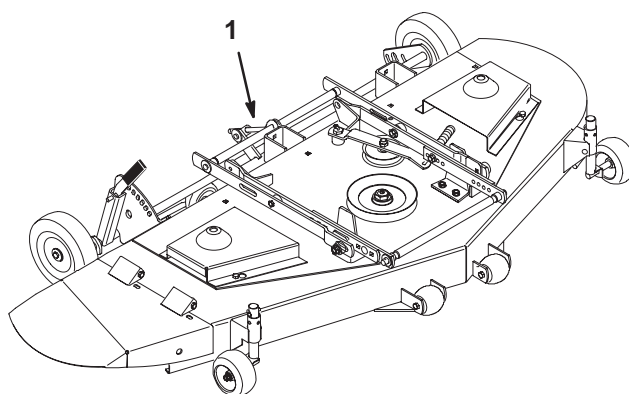

Figure 18
5. To adjust the front-to-rear level, turn the adjusting nut (Fig. 18) on the back of the mower.